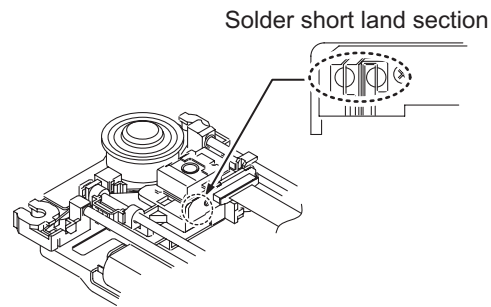

Fig.5
- (5) Solder the solder part of DVD pickup up. (See Fig.5)